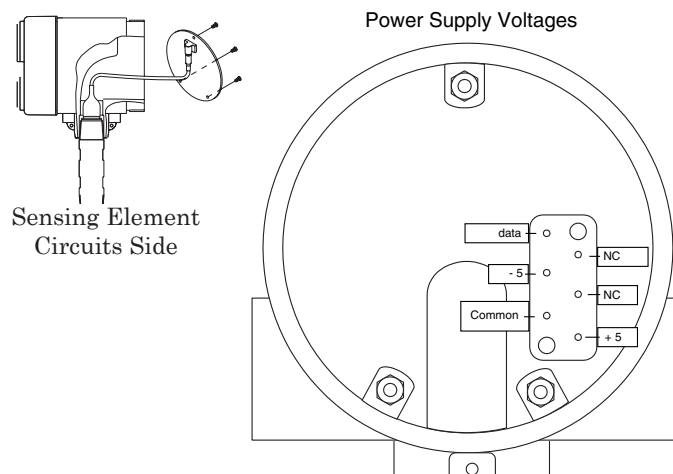

Figure 4-4
5. Using a DC voltmeter, measure voltage from -5 to Common and +5 to Common. Correct readings are -5 to -6 and +5 to +6 Vdc. *See Figure 4-4.*